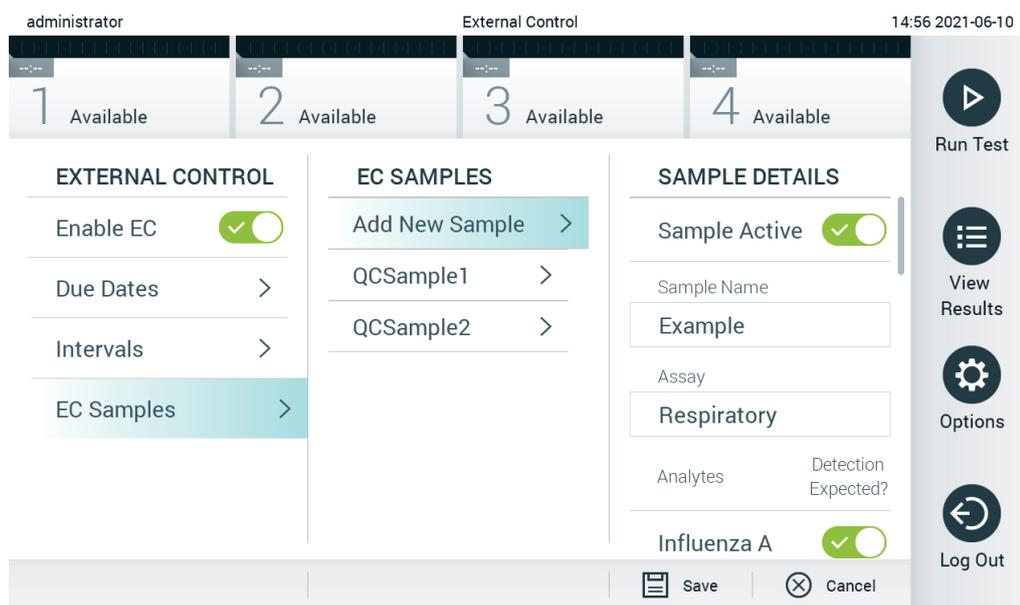

Figure 53. External Control EC Samples screen.
5. Select **EC Samples** to add or edit samples which are used in an External Control test. To add a new EC Sample, press **Add new Sample** and then continue with the configuration in the right column (Figure 53). To edit an EC sample, select an existing one from the middle column and continue with the configuration in the right column.